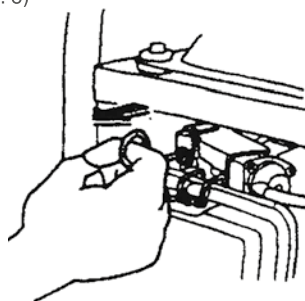

Fig. 6
4.4 Set the Choke Lever to OFF position. (Fig. 6)